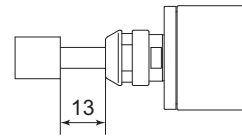

Fig. 23
- ① The proper surface speed for general grindstones is 10 - 30m / s.
- ② Do not exceed 13mm of overhang for mounted grindstones as shown in Fig. 23. If the overhang must exceed 13mm, reduce the motor speed in accordance with Table. 4.
- ③ Dress the grindstone prior to use.
- ④ Do not use cutting tools with bent or broken shanks, cracks or excessive run-out.
- ⑤ For grinding, the maximum depth of cut should not exceed 0.01mm radially or axially. Reciprocate the tool several times after each pass to eliminate tool pressure.
- ⑥ Always operate cutting tools within the allowable recommended speed of the cutting tools. Use of a cutting tool outside of the allowable speed of the cutting tools could cause damage to the spindle and injury to the operator.
- ⑦ Keep the cutting tool shank and collet clean. If contaminants are left in the collet or collet nut, excessive run-out will cause damage to the cutting tool and or spindle.
- ⑧ Do not strike or disassemble the Brushless Motor Spindle.
- ⑨ Please set the cutting tools to minimize the overhang amount. 13mm is the maximum amount of overhang to maintain high accuracy and safety.